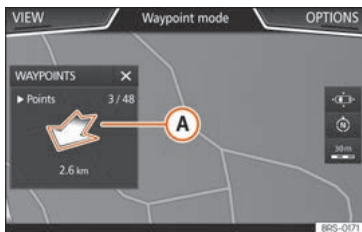

Fig. 242 Offroad route guidance mode
- The general direction of travel is indicated straight ahead by direction arrows in the Infotainment System pop-up window » Fig. 242 A.